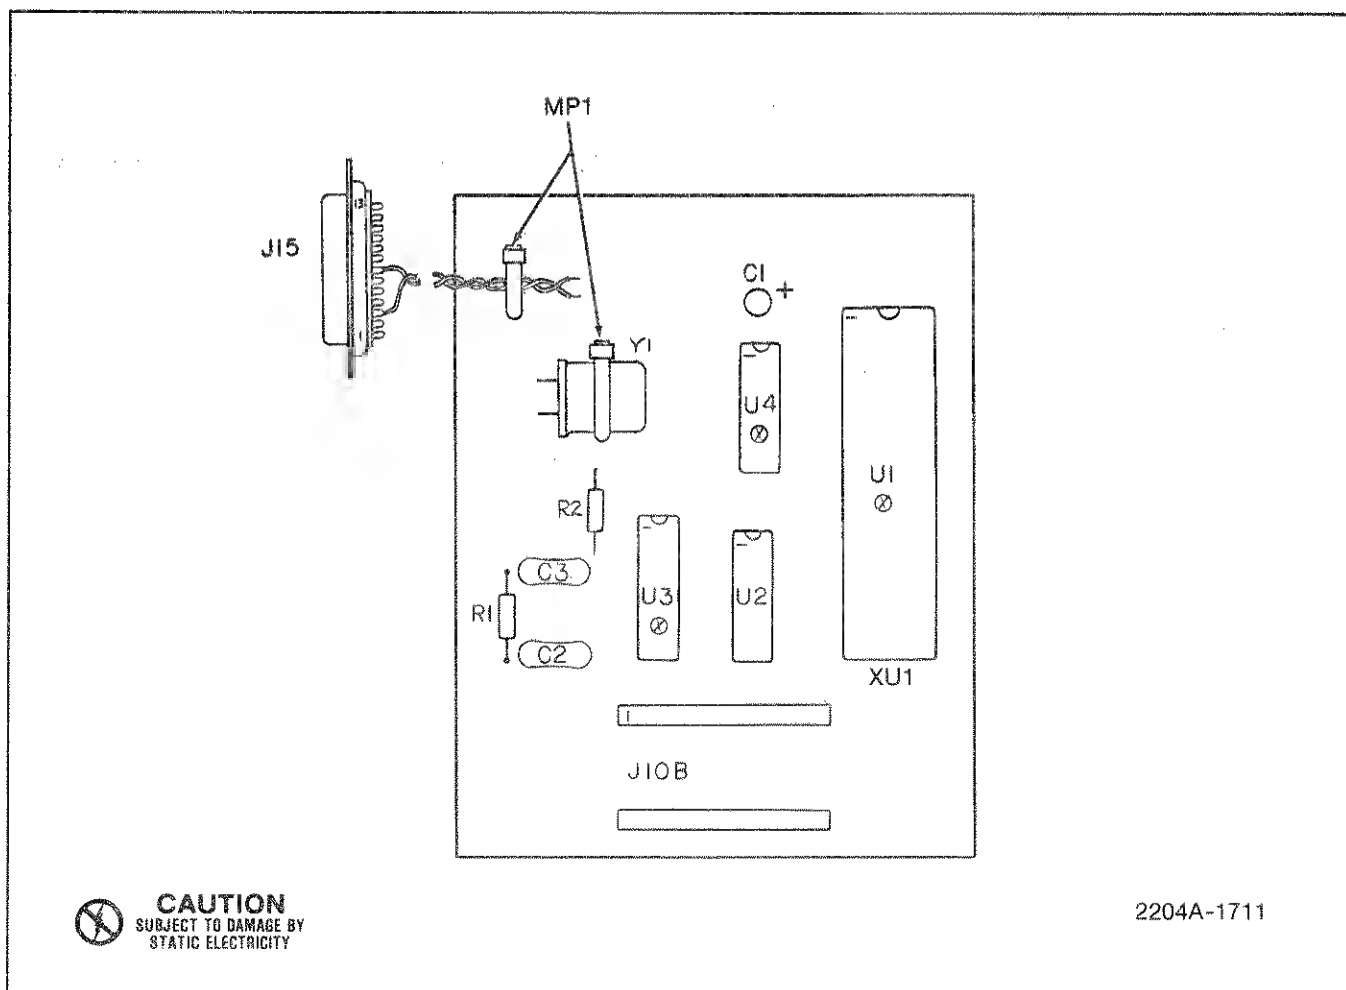

Figure 060-3. RS-232C Interface PCB Assembly
| -060② | RS-232-C INTERFACE PCB ASSEMBLY FIGURE 060-3 (2204A-4011T) | 639757 | 89536 | 469247 | 1 | | |